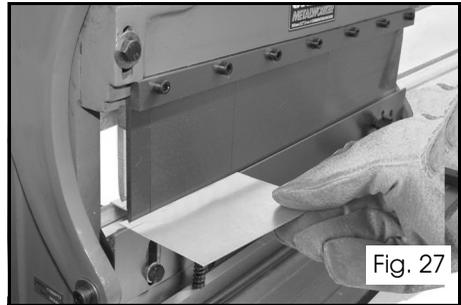

Fig. 27
2. Use the hand crank to lower the finger receiver until you can position the workpiece underneath the fingers with the bend line aligned with the tips, as shown in Figure 27.